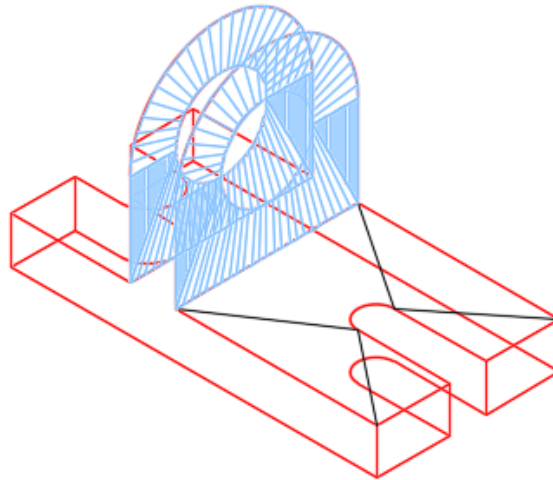

Figure Step 22
Step 22 Copy the surfaces from the front side of the model to back side. (Figure Step 22)